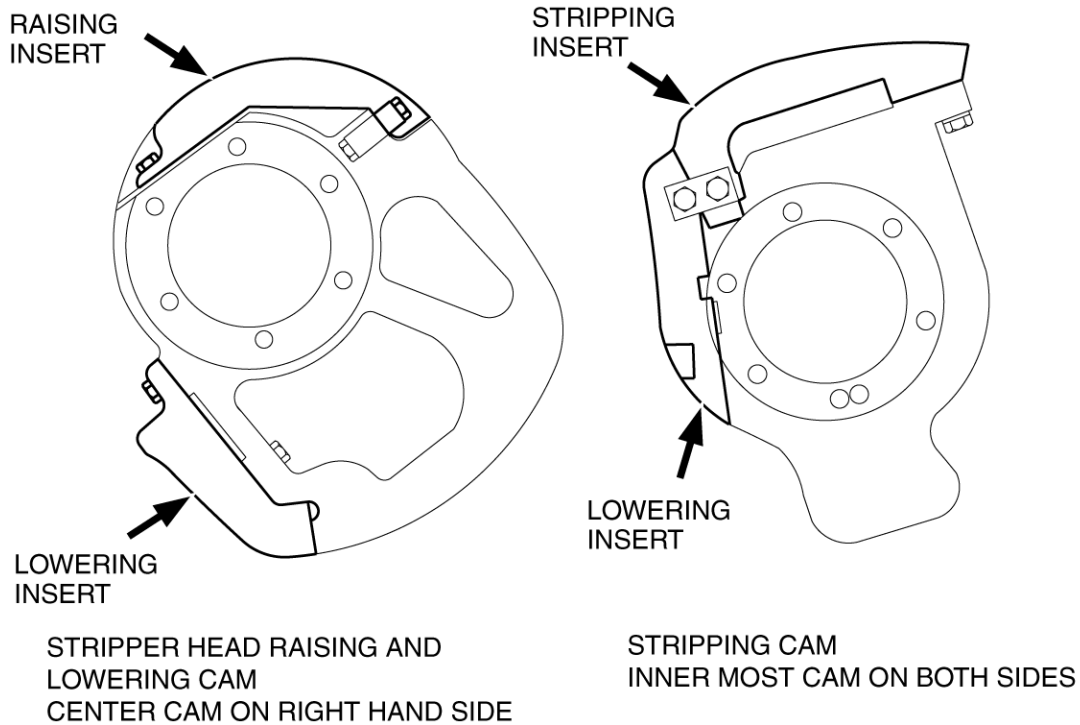

Figure 4.39 REMOVING STRIPPING CAM INSERTS
4.3.3 Remove the stripping cam insert from each side of the machine. This concrete unit is run without any stripping cam insert (see figure 4.39).